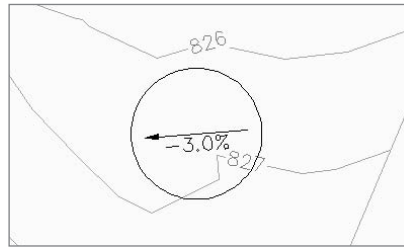

Figure 7.17
5. Zoom in on the red circle in the northeast portion of the site and the nearby label as shown in Figure 7.17. Note that because of the nature of the one-point label, the slope label and arrow are pointing in a direction that really doesn't make sense, parallel to the contours. One-point slope labels reflect the instant grade of a TIN triangle, sometimes leading to labeling anomalies like this one.